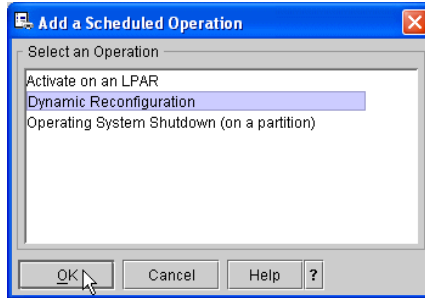

Figure 16 Selecting the scheduled operation
2. In the **Customize Scheduled Operations** window, select **Options** → **New**. The window in Figure 16 on page 30 is displayed for selecting the scheduled operation. Select **Dynamic Reconfiguration**.